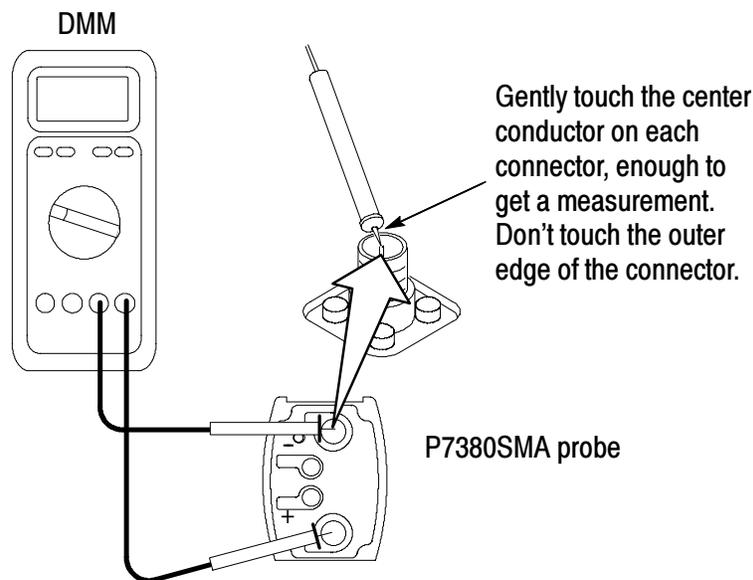

Figure 36: Checking differential mode input resistance
2. Remove the SMA terminations from the two probe inputs and probe the center contacts of the input connectors. See Figure 36.